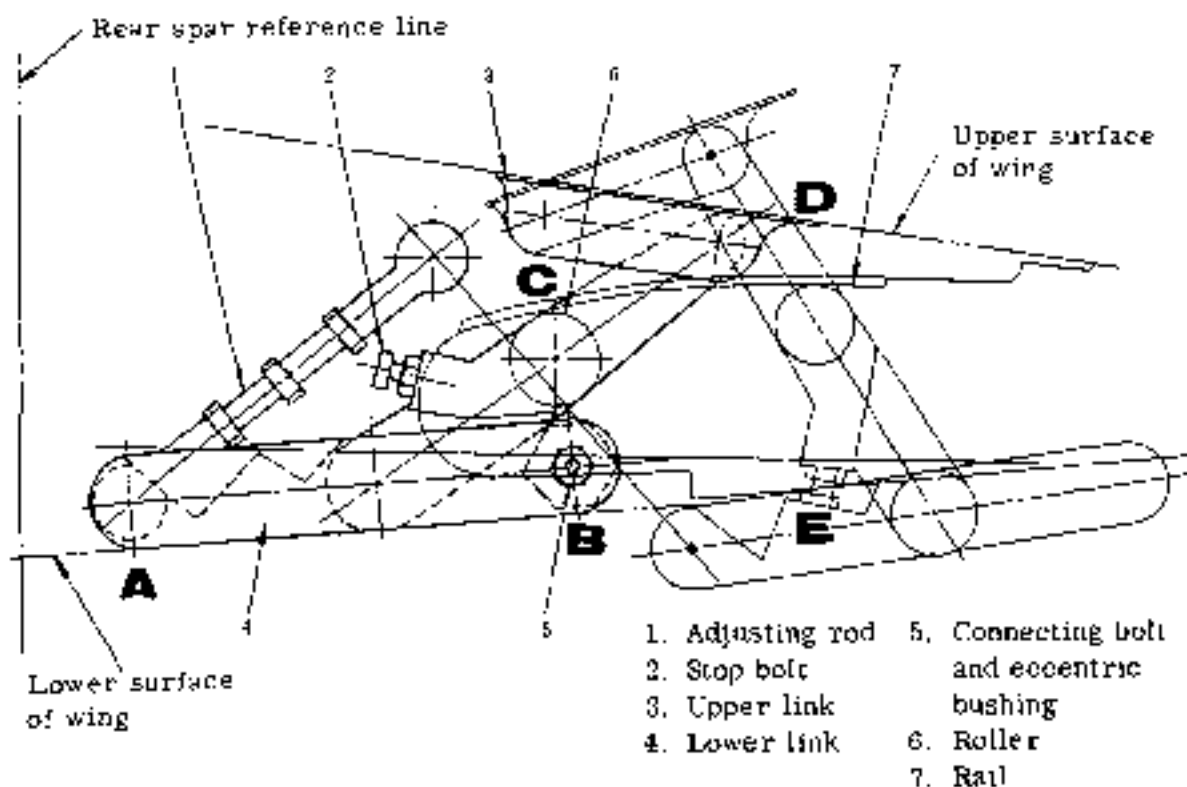

Fig. 5-97 Rigging of outboard flap guide link
9.3.8 RIGGING OF OUTBOARD FLAP GUIDE LINK (See Fig. 5-97)